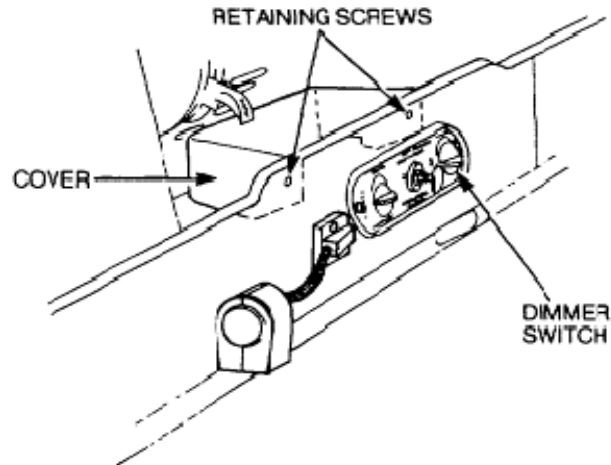

Figure 167 Switch Top Cover Removal
- b. Remove the two screws securing the top cover to the dash panel (Figure 167).